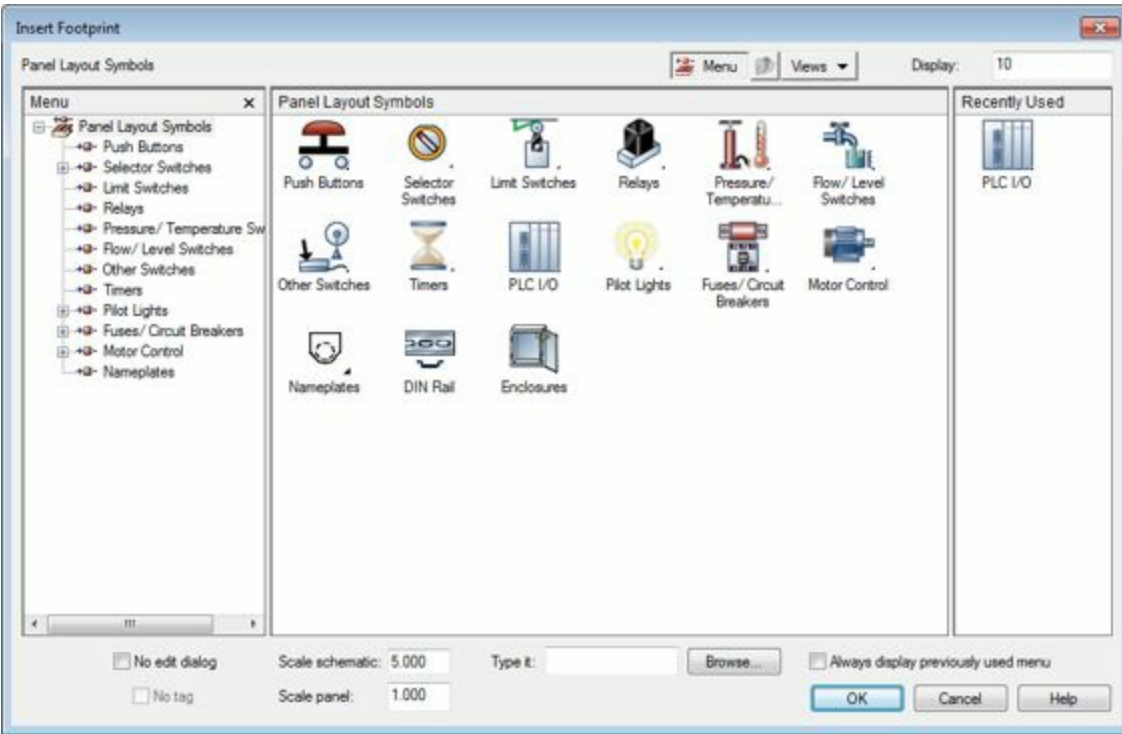

Figure-50. Insert Footprint dialog box
- Click on the **OK** button from the dialog box. The **Insert Footprint** dialog box will be displayed; refer to Figure-50.